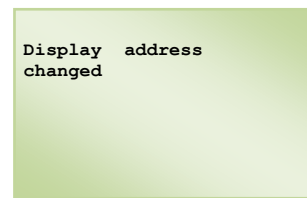

Fig. 12
- By using the **UP** and **DOWN** keys, select the desired value and press **ENTER** to confirm. If the selected value is different from that previously memorized in the mask in fig.12 will appear and the new value will be memorized in the permanent memory of the display.